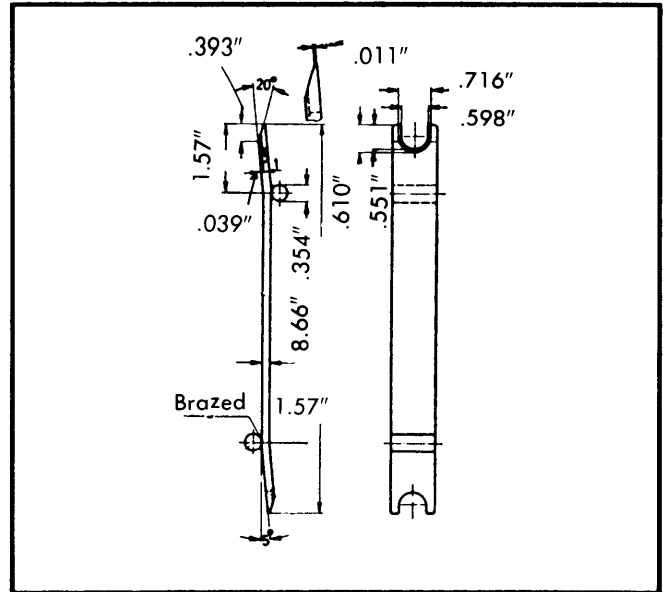

Fig. 3 Valve Stem Oil Seal Tool
2) Prepare a tool for removing oil seal. See Fig. 3. Using oil seal tool, lever oil seal off of guide and stem.